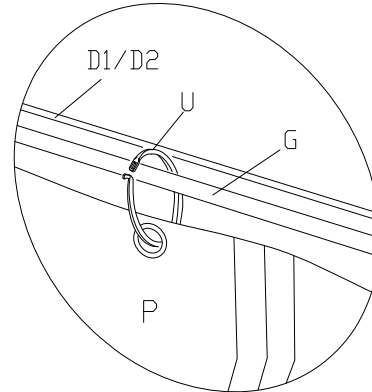

Fig.12
Hang the Mosquito Netting(Q) onto the inside Sliding Rail(G) with the Plastic Ring(U). (See Fig.12)